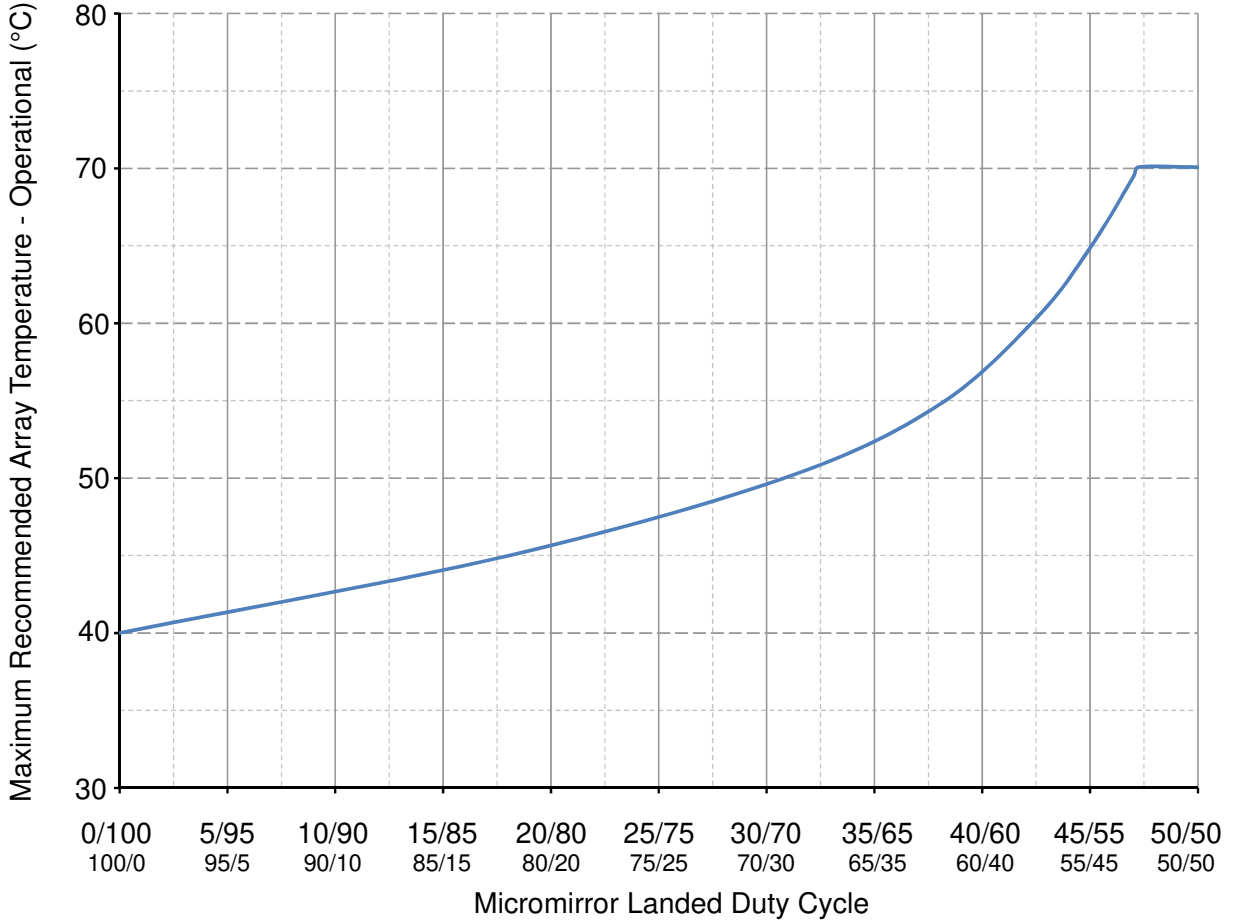
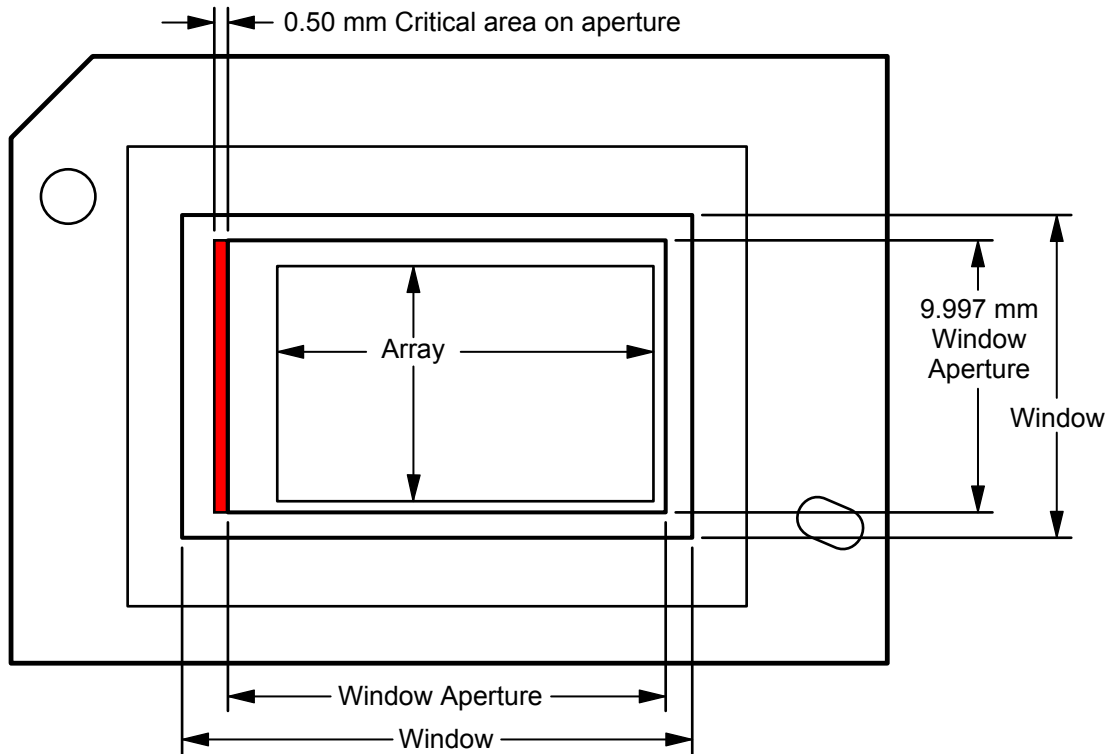

Figure 6-1. Maximum Recommended Array Temperature—Derating Curve
Figure 6-2. Illumination Overfill Diagram—Critical Area
- (11) Long-term is defined as the usable life of the device.
- (12) Per Figure 6-1, the maximum operational array temperature should be derated based on the micromirror landed duty cycle that the DMD experiences in the end application. See Section 7.8 for a definition of micromirror landed duty cycle.
- (13) Array temperatures beyond those specified as long-term are recommended for short-term conditions only (power-up). Short-term is defined as cumulative time over the usable life of the device and is less than 500 hours.
- (14) The average over time (including storage and operating) that the device is not in the "elevated dew point temperature range."
- (15) Exposure to dew point temperatures in the elevated range during storage and operation should be limited to less than a total cumulative time of CT_{ELR} .
- (16) Light illuminating the critical area on the window aperture shown in Figure 6-2 should be limited to a maximum of Q_{AP-ILL} .
- (17) The maximum allowable optical power incident on the DMD is limited by the maximum optical power density for each wavelength range specified and the micromirror array temperature (T_{ARRAY}).
- (18) To calculate, see Micromirror Power Density Calculation.